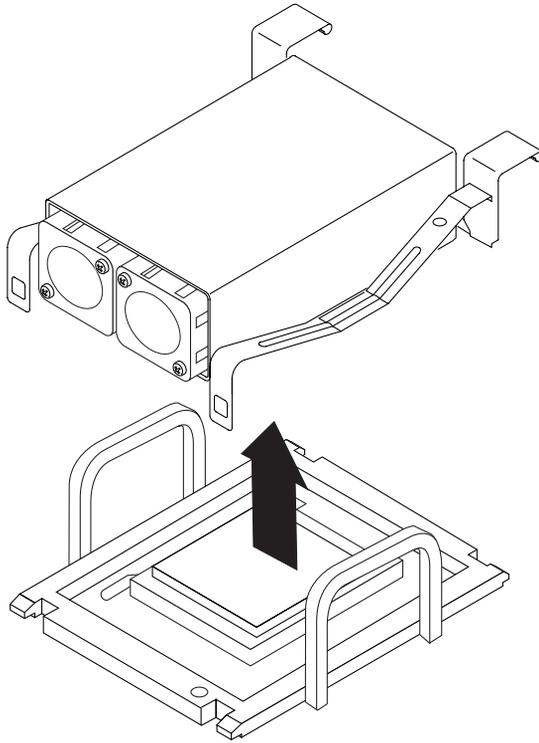

FIGURE 5-21 Lifting the Heat Sink From the CPU Socket
5. Carefully pull the heat sink up from the CPU socket (FIGURE 5-21).